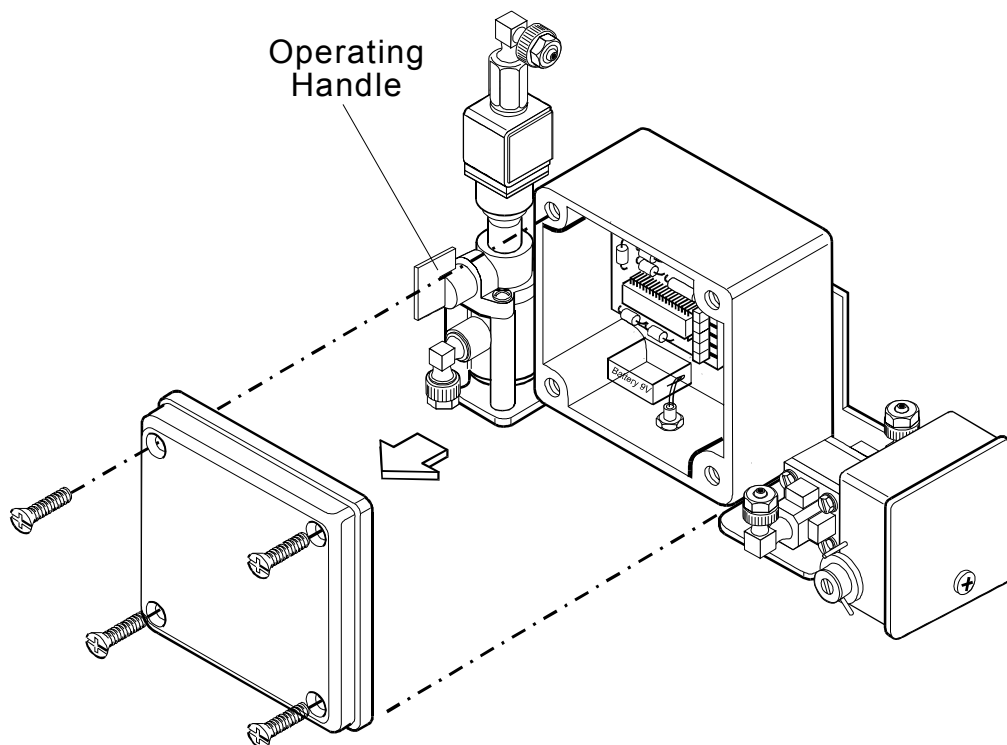

Figure 3: Battery Removal & Installation
8. Perform an additional flushing cycle manually, by operating the handle (turn clockwise 90°) located on the solenoid (See Figure 3).